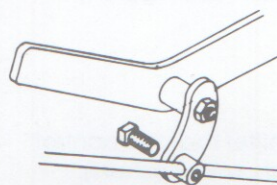

FIG. 7
12. To adjust the clutch control loosen setscrew (Fig. 7).